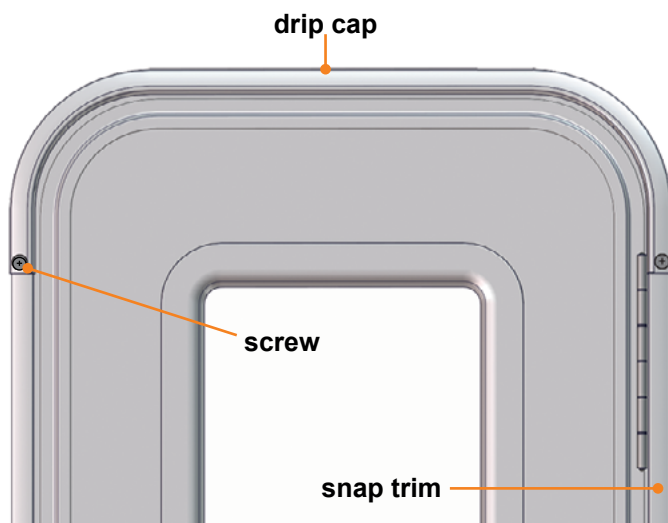

Fig.1
1. Remove screws holding the drip cap onto the door and remove drip cap (Fig.1).
2. If installed, remove entry snap trim on both left and right side of door (Fig.1).